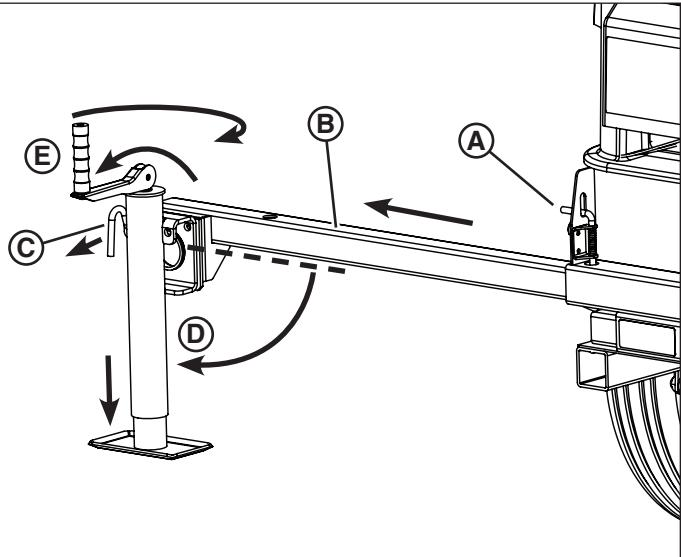

Figure 12
- a. Lift the outrigger locking pin (**A**, Figure 12).
- b. Slide the outrigger (**B**, Figure 12) out until the pin locks the outrigger in the operating position.
- c. Pull the stabilizer jack locking pin (**C**, Figure 12) securing the stabilizer jack in the transport position, and rotate the jack into the operating position (**D**). Make sure the pin locks the stabilizer jack in place.
- d. Unfold the handle (**E**, Figure 12) of the stabilizer jack, then turn clockwise to lower the jack until the jack foot is firmly planted on the work site surface.